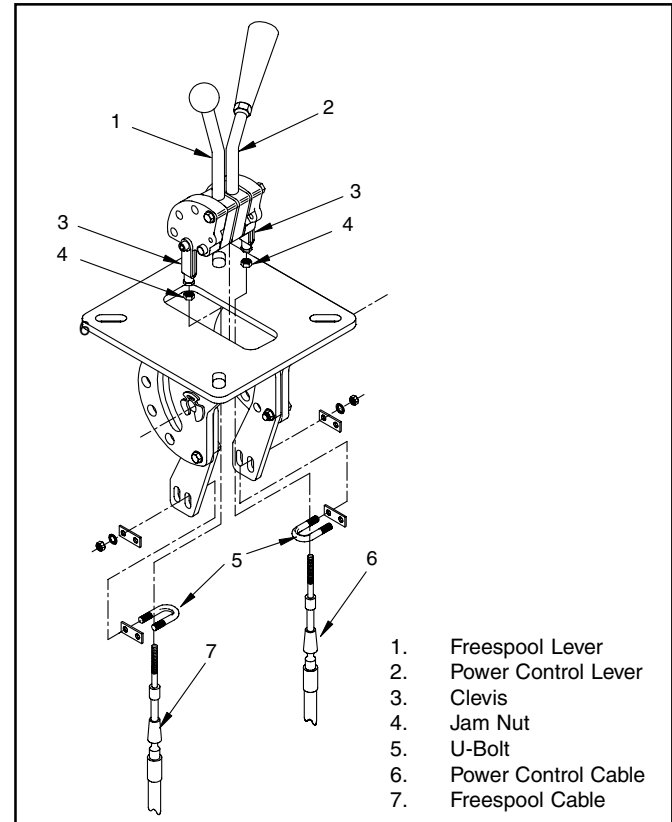

Figure 18 - Control Cable Adjustments
C. See Figure 18. This configuration is used only on the W8L winch.
**A.** A tractor or skidder often travels in areas where traction conditions are bad. A vehicle equipped with a winch can be used to remove itself from mud or other areas where it cannot move using only the drive wheels or tracks. See Figure 18. Use the following procedure: